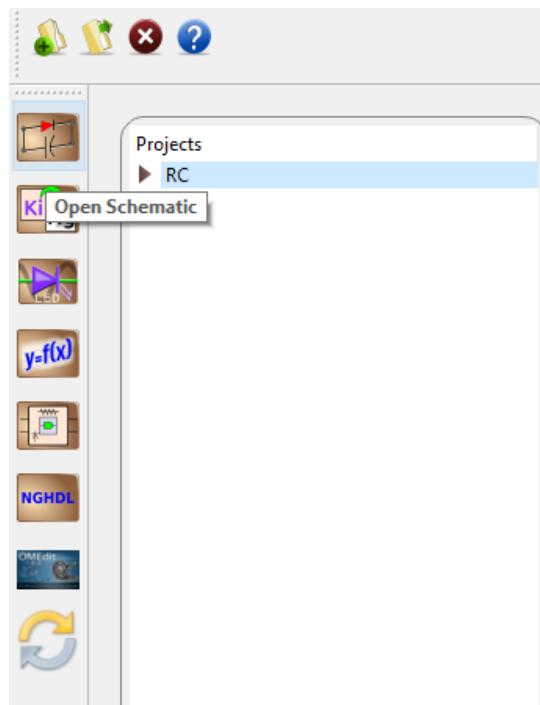
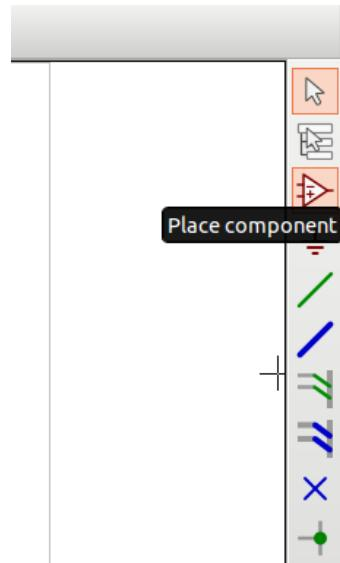

Figure 14.2: Open Schematic Editor
Figure 14.3: Place Component Icon
- Creating the Schematic: To create the schematic, click the very first icon of the left toolbar as shown in the Fig. 14.2. This will open KiCad Eeschema.
To create a schematic in KiCad, we need to place the required components. Fig. 14.3 shows the icon on the right toolbar which opens the component library.
- Creating Schematic: To create the schematic, click the very first icon of the left toolbar as shown in the Fig. 14.2. This will open KiCad Eeschema.
After the KiCad window is opened, to create a schematic we need to place the required components. Fig. 14.3 shows the icon on the right toolbar which opens the component library.
- Creating Schematic: To create the schematic, click the very first icon of the left toolbar as shown in the Fig. 14.2. This will open KiCad Eeschema. After the KiCad window is opened, to create a schematic we need to place the required components. Fig. 14.3 shows the icon on the right toolbar which opens the component library. After all the required components of the inverting amplifier circuit are placed,